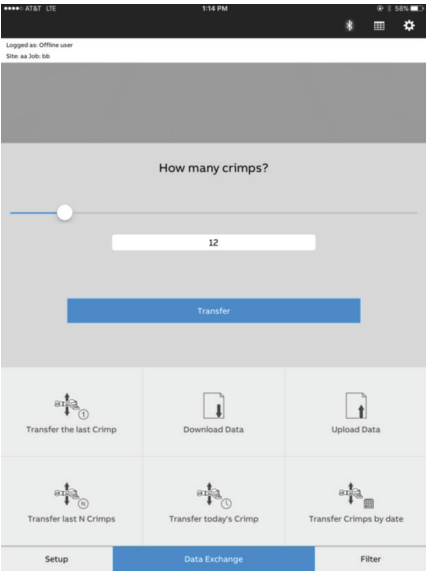

Figure 03
- Select your preferred transfer option (Figure 03):